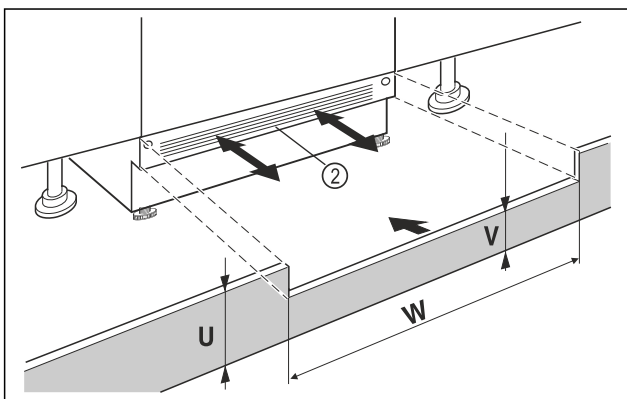

Fig. 12 Example illustration
- Put on the appliance base cover Fig. 12 (2) but do not fix it in place yet.
- If the base panel is visible Fig. 12 (2), pull it forwards so that the front edge of the ventilation grille and the unit base panel are level.
- If the base panel is concealed Fig. 12 (2), push it all the way back.
- Ensure that the ventilation slots are completely free: If necessary, cut the height of the unit base panel Fig. 12 (U) to size!
- ▷ Adjust the web height Fig. 12 (V) under the appliance base panel Fig. 12 (2) along the niche width Fig. 12 (W).